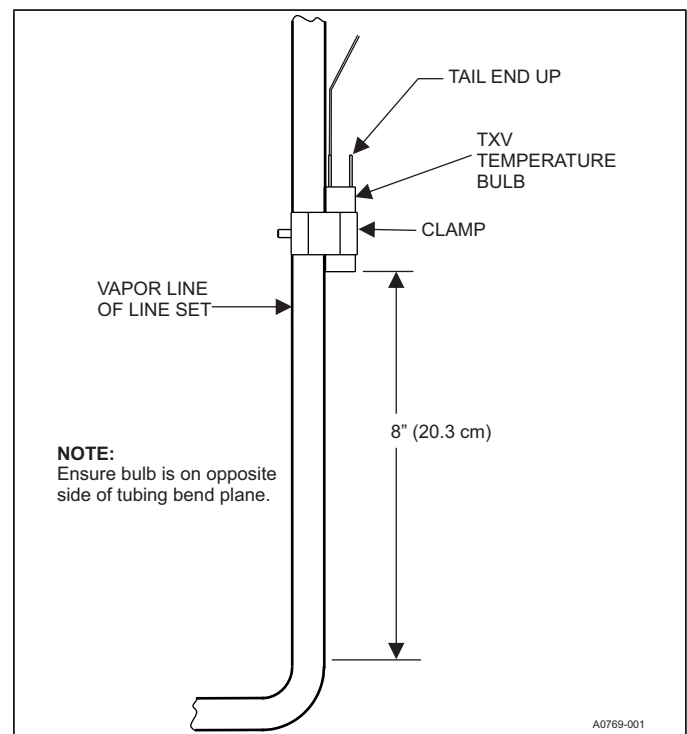

FIGURE 27: Vertical Temperature Bulb Orientation
- If bulb installation is made on a vertical run, ensure that the bulb is a minimum of 8 inches (20.3 cm) away from elbow coming out of the coil. Position the bulb with the tail of the bulb at the top, so that the bulb acts as a reservoir. See Figure 27.